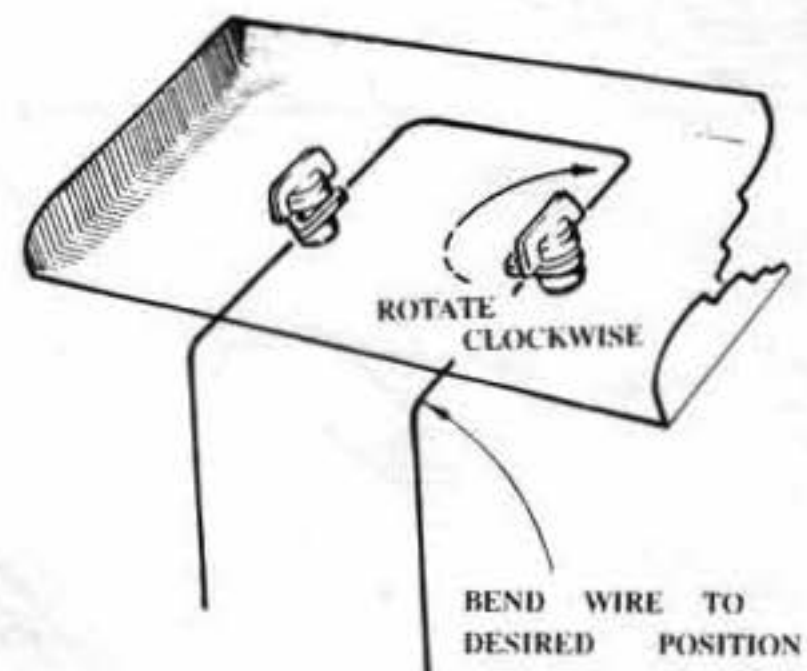

FIG. 47
5. To lock the wing in position, rotate the top wing button 1/4 turn clockwise until the tabs point front to back as shown in Fig. 47.